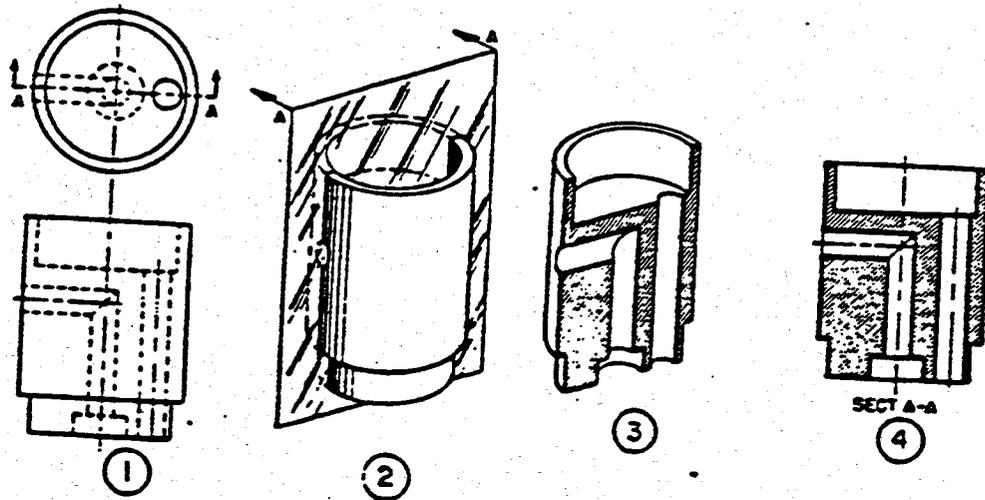

Fig 1-24. Action of the cutting plane.
c. Sections. Section views are used to give a clear view of the interior or hidden features of the object which normally cannot be clearly observed from conventional outside views. A section view is obtained by cutting away part of an object to show the shape and construction at the cutting plane. The most common position of the cutting plane is through the longest dimension, or main longitudinal axis and parallel to the front view as shown in figure 1-24. The cutting plane may be drawn parallel to any plane of projection if it shows the required features of the object. When section views are drawn, the part that is cut by the cutting plane is marked with closely spaced, parallel (section) lines. The section lines indicate the surfaces which were created by the cutting plane and which do not exist on the uncut object. When two or more parts are cut in one view, a different slant or style of section line is used for each part. All rules of projection apply, but hidden lines complete the understanding of the view. Notice how the cutting plane is shown on a drawing as illustrated in view 1 of figure 1-24.
The cutting plane in view 2 of figure 1-24 illustrates where the imaginary cut is made. The object as it would look if it were cut in half is shown in view 3. The section view as it would appear on a drawing is shown in view 4.